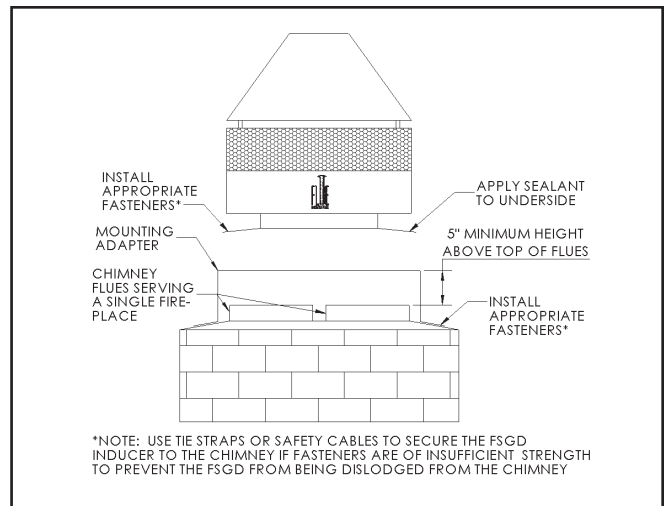

FIG 4
5. Installing the Chimney Top Inducer system over a double flue system, serving a single fireplace. (See Figure 4).
- a. Measure the chimney tile size and height of flue above the chimney cap and fabricate a corrosion resistant mounting adapter that fits over the top of both flues. The height above the top of the flue tile must be increased by at least 5" above the flue outlet; this is needed to allow both flues to vent (See Figure 4).